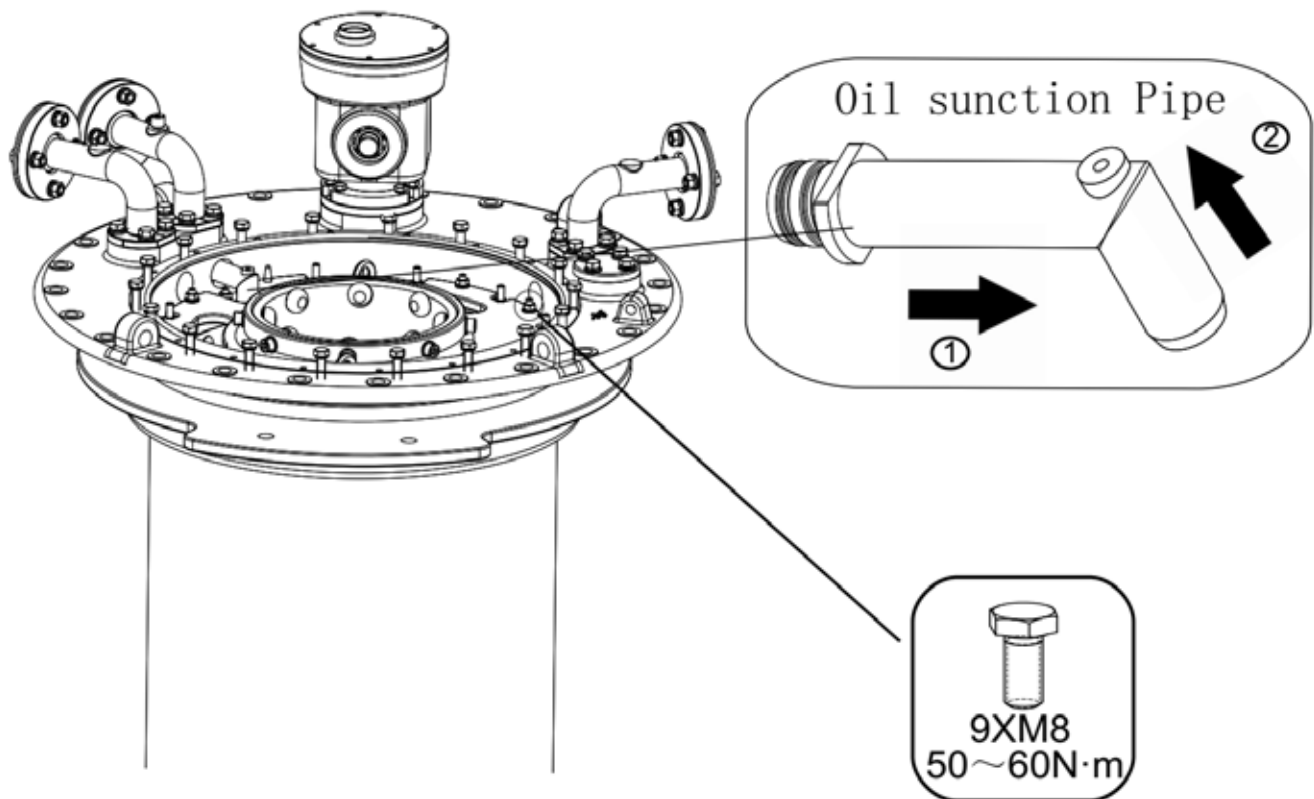

Figure 4.2.3
4.2.1.4 Remove the fastening bolts on the flange in the non-red painted area (9 pieces of M8, 13mm spanner, with spring washers) and pull out the oil suction pipe (see Figure 4.2.3).